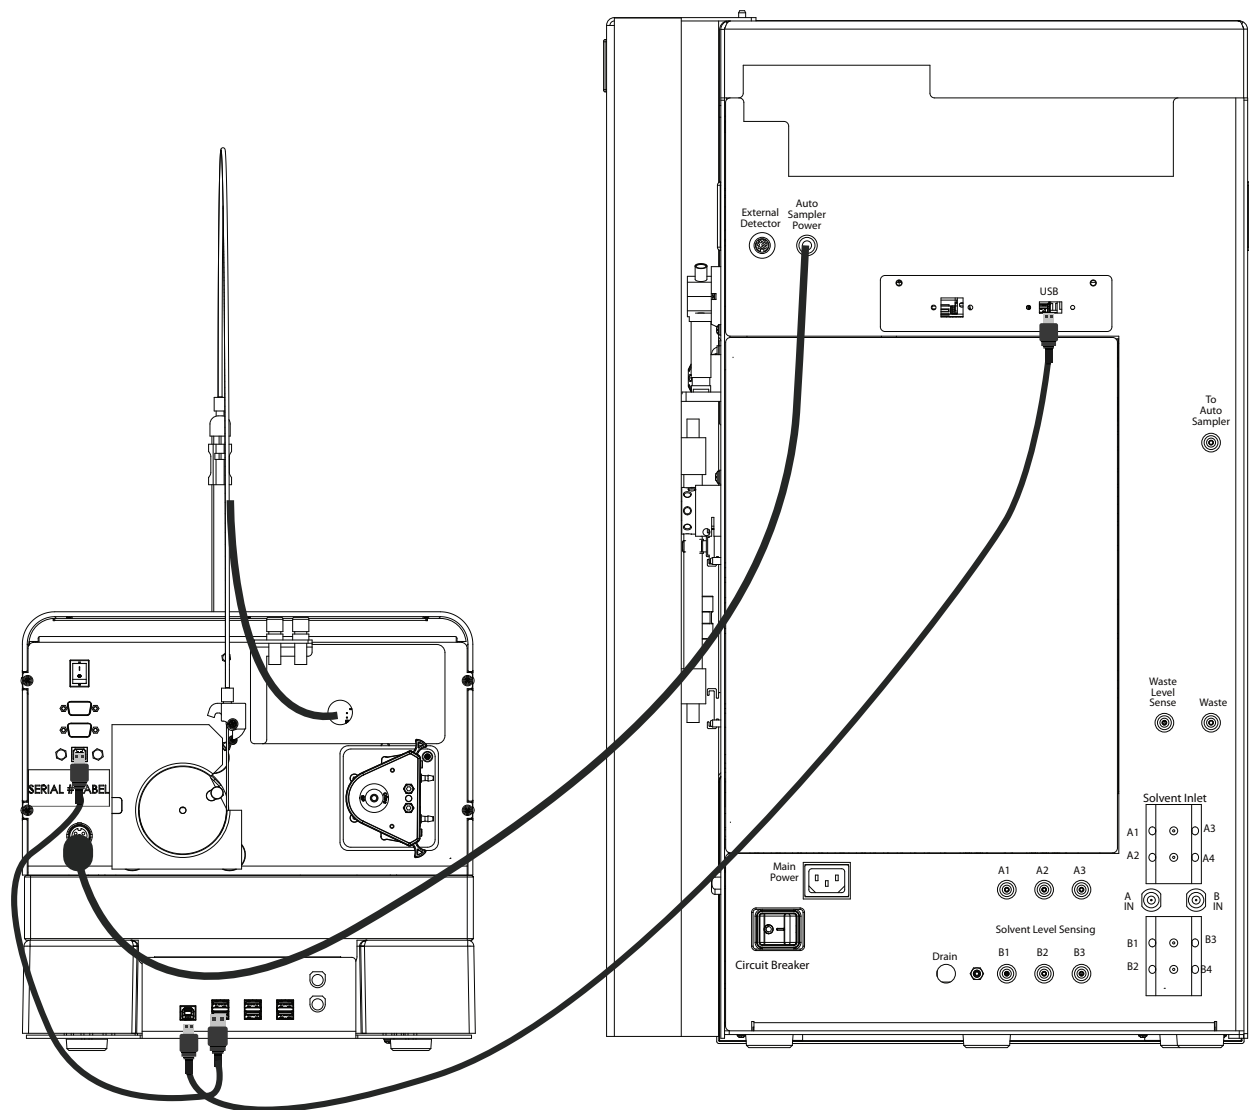

Figure 2-23 Diagram of the AutoSampler and ACCQPrep USB connections (See Appendix A, Figure A-2 for a larger diagram)
13. Connect the long USB cable (provided) from the USB-A port on the back of the ACCQPrep to the USB-B port on the lower portion of the back panel on the AutoSampler Module (Figure 2-23). See Appendix A, Figure A-2 for a larger diagram.
14. The short USB cable connecting the USB-B port on the top portion of the back panel of the Autosampler Module to the USB-A port on the lower portion of the back panel of the Autosampler Module should already be pre-installed. If not, make connection as seen in Figure 2-23.